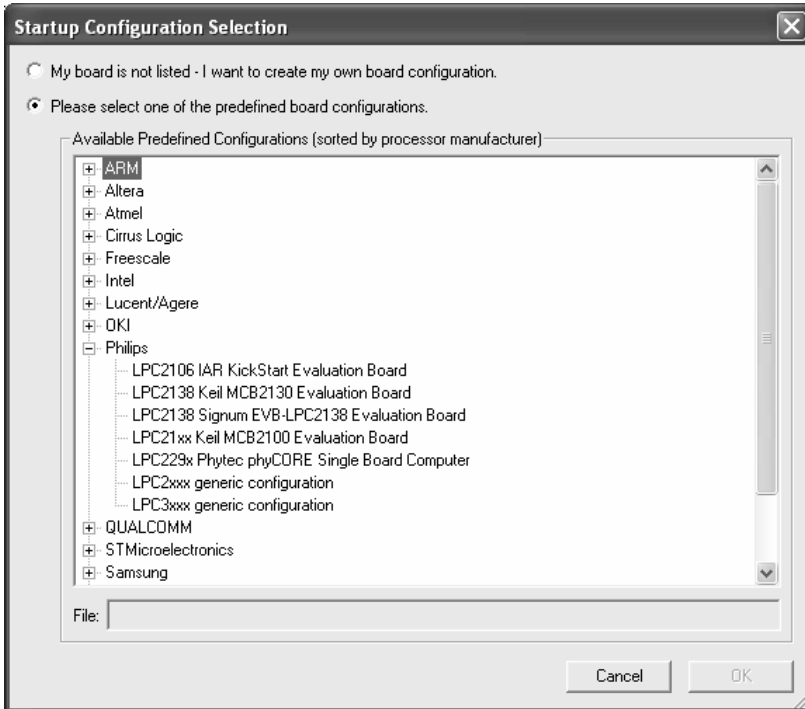

FIGURE 6 The Startup Configuration Selection window.
6. The Startup Configuration Selection window displays a list of supported boards sorted by the manufacturer of the ARM device used on the board. (Figure 6).
7. If your board is not listed in the Startup Configuration Selection window (Figure 6), or if it requires custom settings, select: